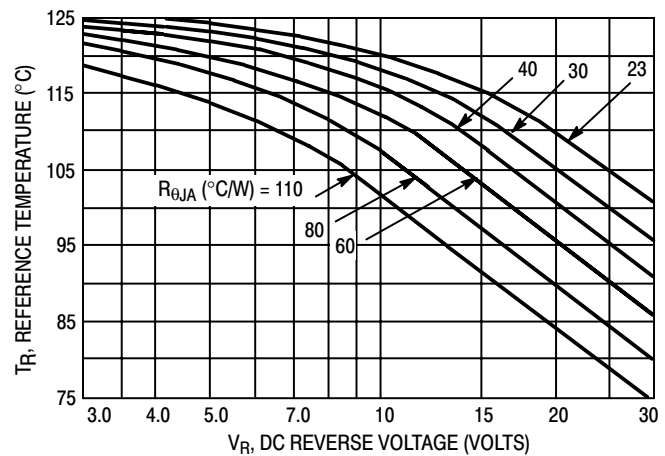

Figure 2. Maximum Reference Temperature
Step 2. Find T_R from Figure 2. Read $T_R = 109^\circ\text{C}$